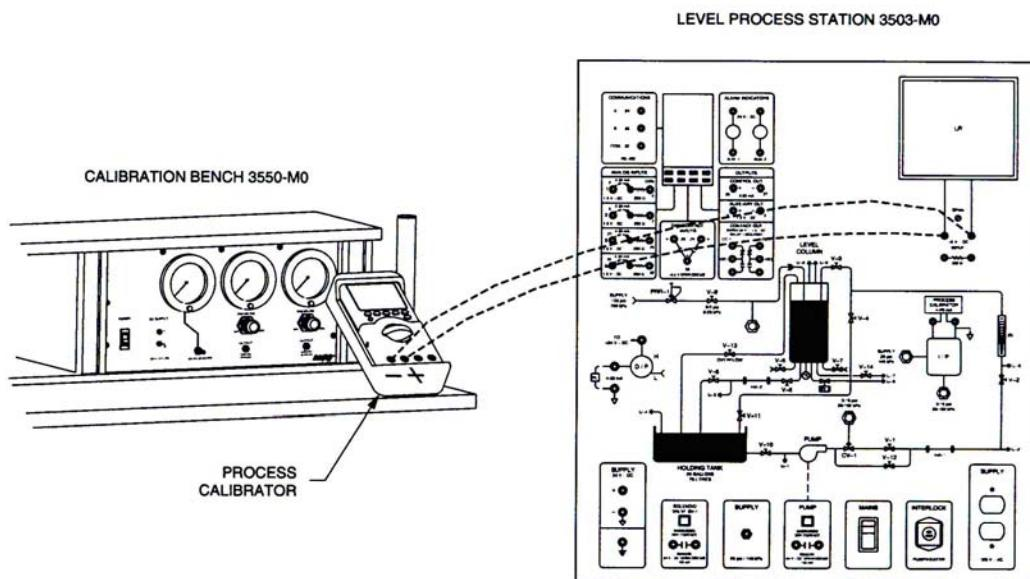

Figure 6-2. Calibration of a Strip Chart Recorder.
- 2. Set the digital calibrator of the Calibration Bench for a voltage output. Connect the leads to the 15 V dc input on the recorder as shown in Figure 6-2.